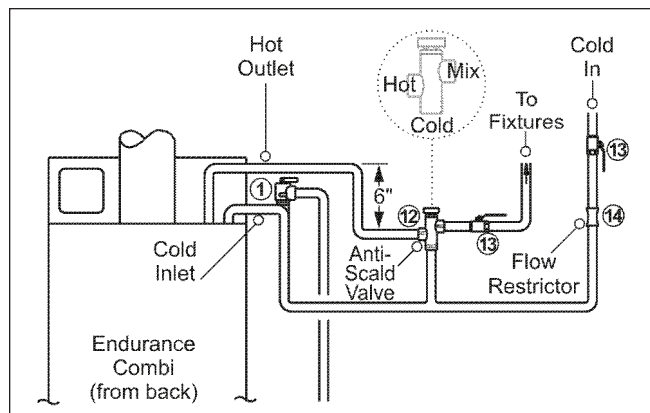

Figure 16. Domestic Water Piping.
1. Connect tempering (mixing) valve (12) “Hot” port to hot water outlet from unit. This valve should be rated no higher than 120°F mixed delivery temperature or as local codes dictate. LAARS RECOMMENDS ANTI-SCALD TEMPERING (MIXING) VALVES (see Figure 16).
2. Connect gate or shutoff valve (13) to tempering (mixing) valve (12) “MIX” port, and cold water inlet.
3. Install supplied flow restrictor (14) ahead of tempering (mixing) valve tee.
4. Connect pressure relief valve (1) (if required by codes), rated at maximum 150 PSI as close to the unit as possible. No other valves or restrictions may be installed between the Endurance and the relief valve.